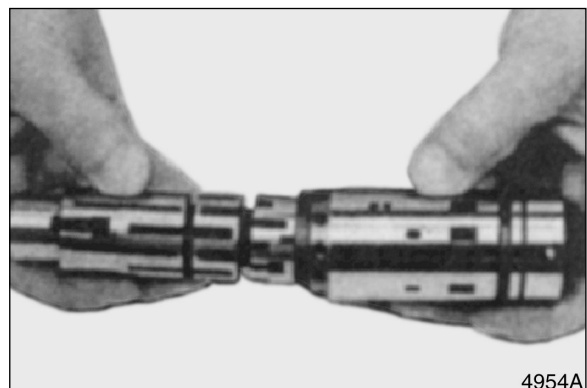

Figure 24
16. Carefully slide control spool out of sleeve. See Figure 24.